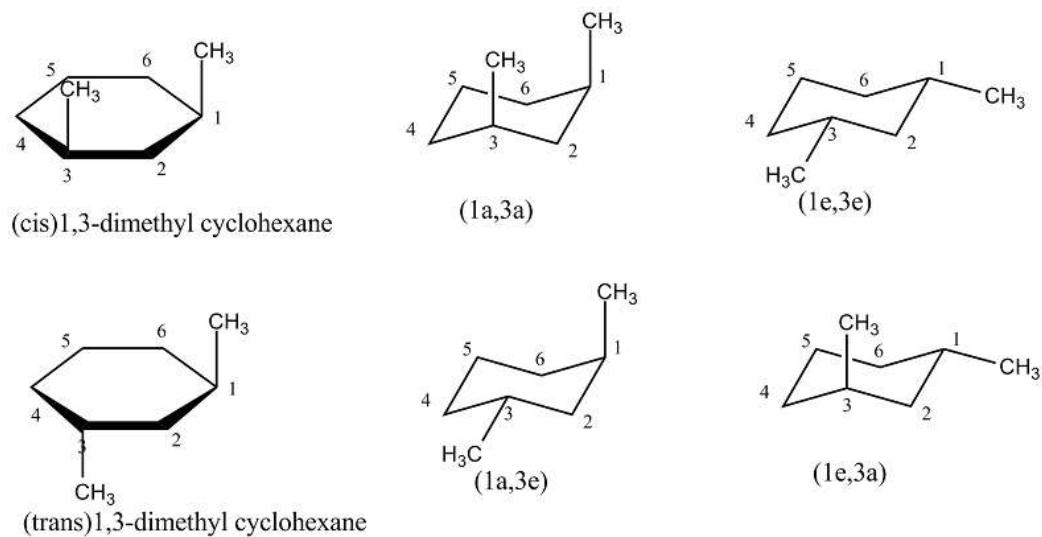

Figure 4.37: Conformations of 1,3-dimethyl cyclohexane
**(cis)1,3-dimethyl cyclohexane** has two conformers (1a,3a) and (1e,3e), here 'a' refers to axial and 'e' to equatorial bonds. They inter convert each other by flipping. In (1a,3a) conformer each axial methyl group has two Gauche interactions with the ring  $CH_2$  groups, thus there are 4 gauche interactions, whereas (1e,3e) conformer has no Gauche interactions. Thus (1e,3e) conformer is more stable in (cis)1,3-dimethyl cyclohexane (fig 4.37).
**(trans)1,3-dimethyl cyclohexane** has two conformers (1a,3e) and (1e,3a). They inter convert each other by flipping. Both (1a,3e) and (1e,3a) forms are equally stable as they have equal number of Gauche interactions (two) (fig 4.37).